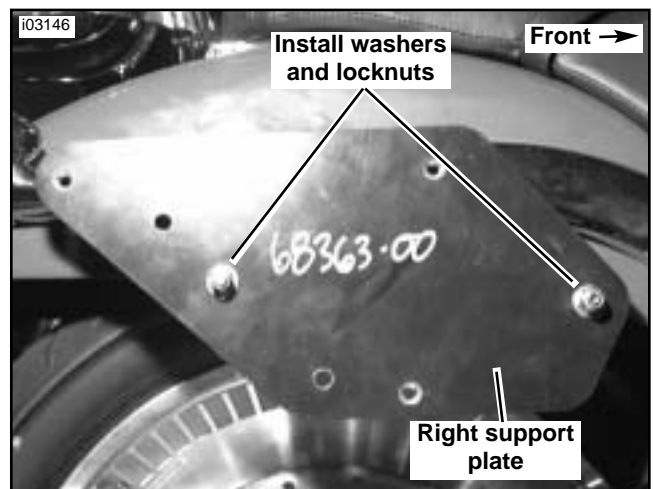

Figure 17. Install Right Saddlebag Support Plate
11. See Figure 17. While aligning the right saddlebag support plate (Part Number 68363-00) oriented as shown, with three pressed-in nuts towards fender, install the plate with bolts, then fasten a washer (Part Number 6701) and lock nut to each bolt. Use a wrench to keep bolts heads from turning. Torque the lock nuts to 27 ft-lbs (36.6 Nm).